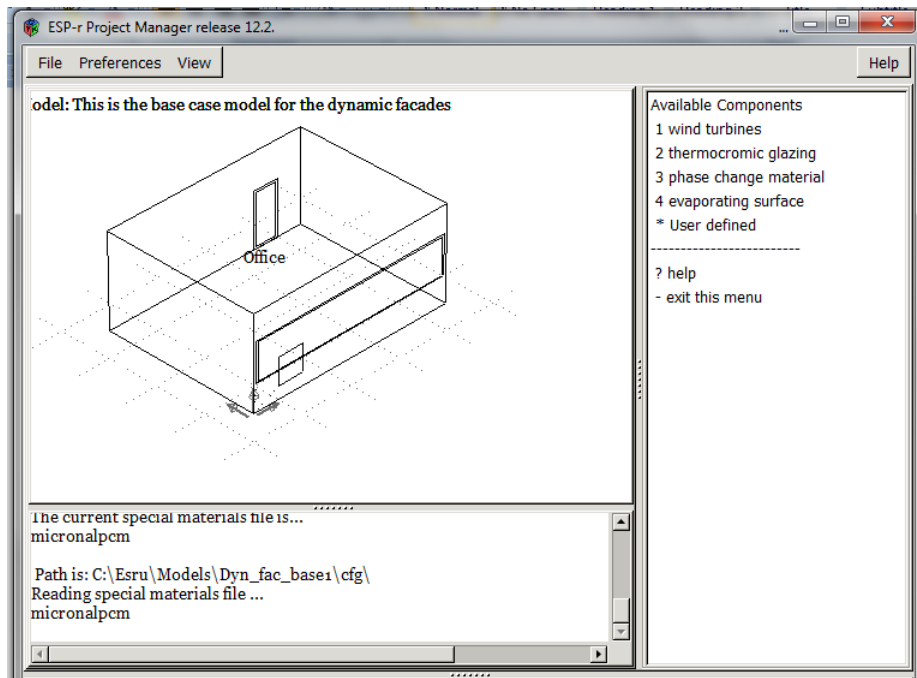

Figure 9
**Step 9:** ESP-r will then list the available components, click *>Phase change materials*. (figure 9)